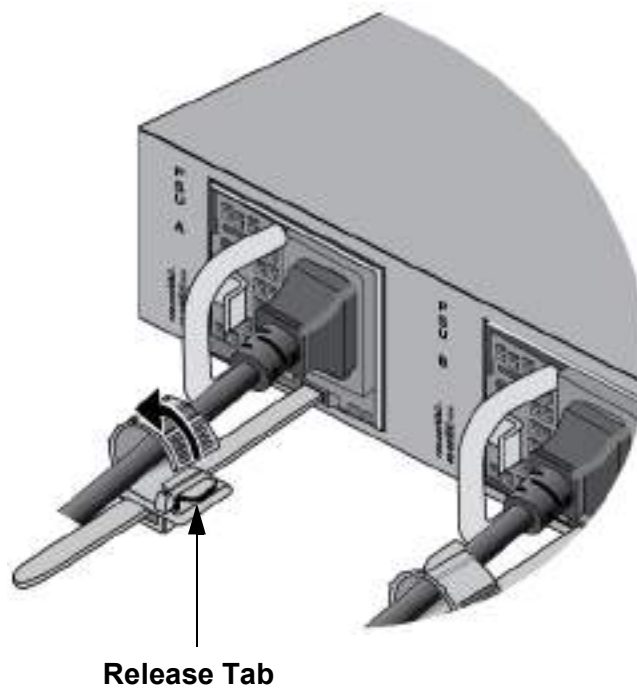

Figure 129. Opening the Restraining Strap on the Power Supply
2. Open the restraining strap on the power cord by pressing down on the release tab and pulling out the strap. Refer to Figure 129 on page 188.